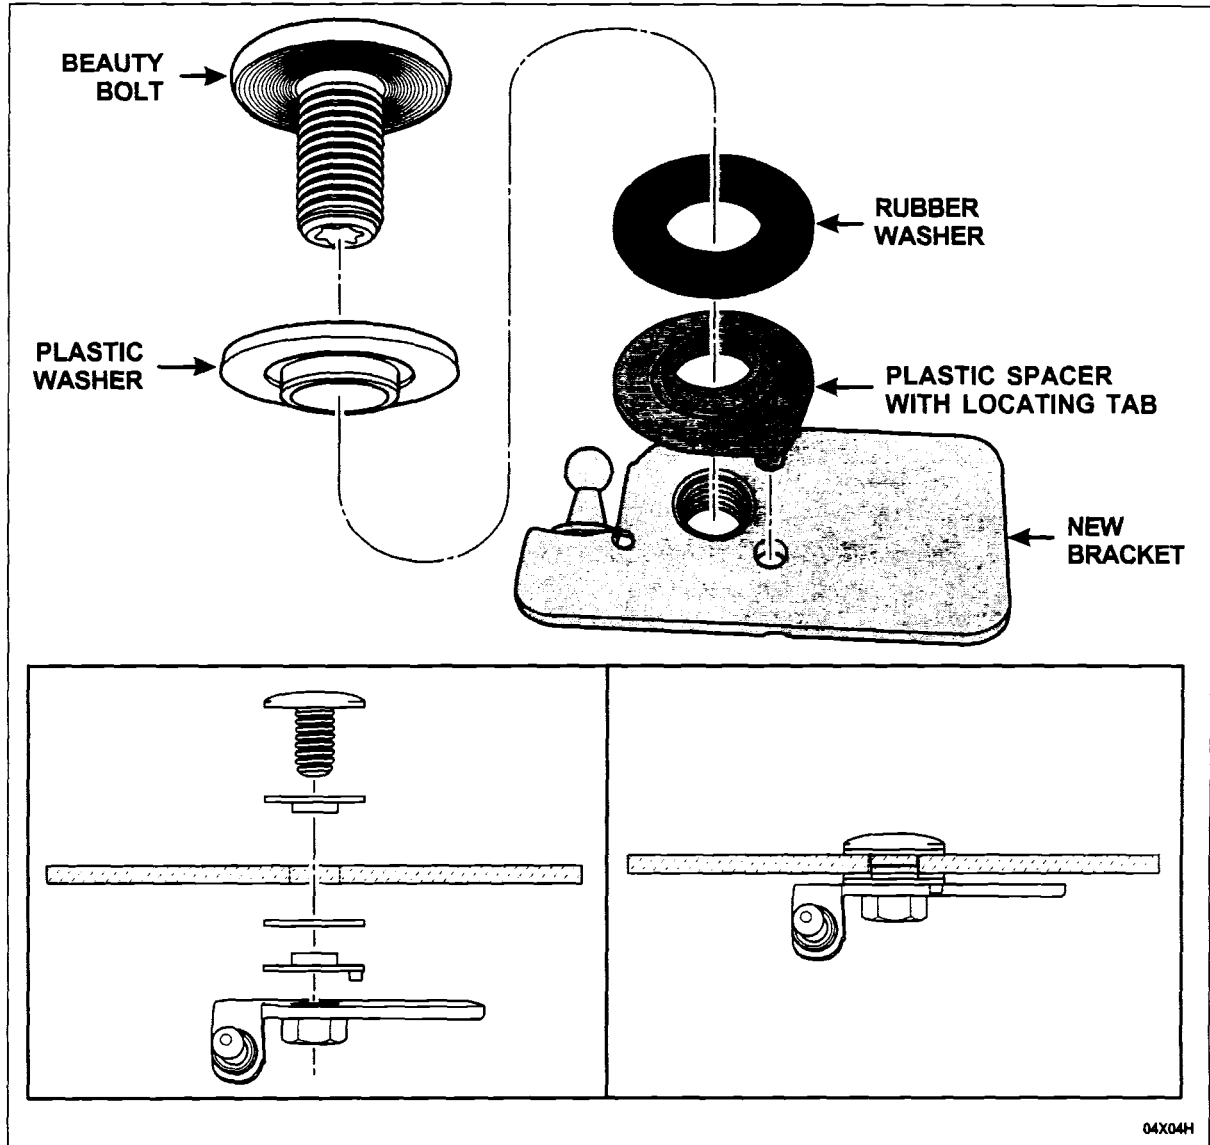

FIGURE 8
8. Install the plastic spacer (with locating tab) and rubber washer onto the *new* brackets as shown in Figure 8. Also, place a plastic washer onto the beauty bolt with the collar toward the glass.